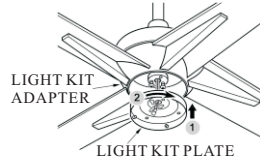

FIG.15
2. Gently pull the wire through light kit plate. Align the three holes on light kit plate with light kit adapter. Then, tighten back the screws removed previously.(See fig.15&16)